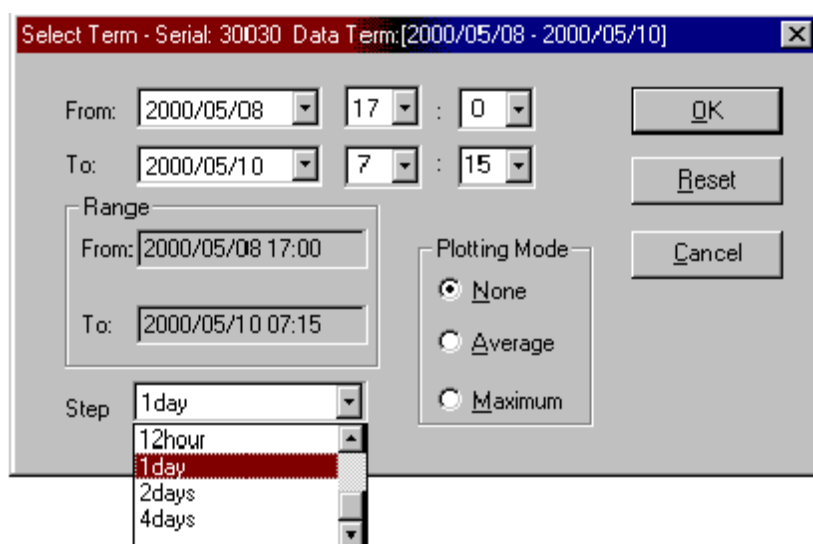

Figure 5.19 Select Term Panel
3. After the data module has been selected, the Select Term panel opens automatically (see Figure 5.19). Select the desired data term, step (graph scale), and plot mode, and then select **OK**. The monitor data is loaded from the location specified on the Read Data panel.